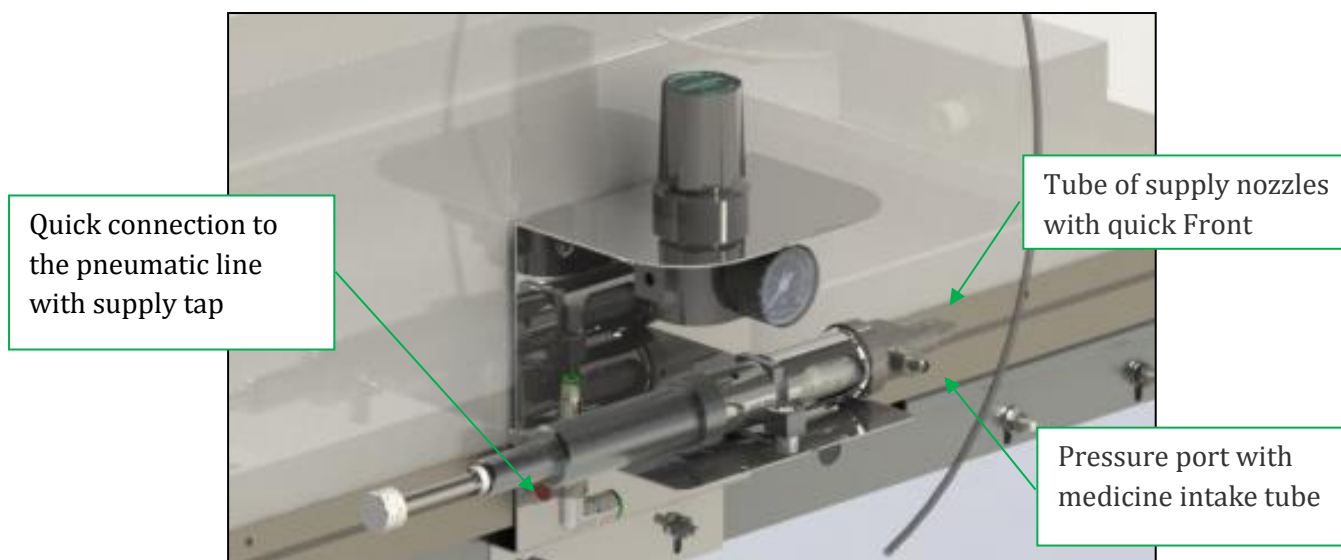

Fig. 5.1: Preliminary Operations
- Connect the appropriate high-pressure hose to a compressed air network connecting the pipe with the tap on the device in the point of quick coupling (see Figure 5.1);
- Connect the bags containing the drug to the pumping (see Figure 5.1);